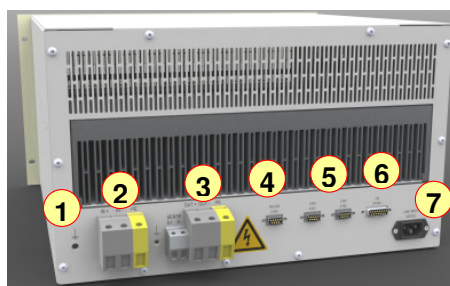

Fig. 5 Rear of device
Rear of device TC.LIN (cf. Fig. 5)
For the connection to the mains, an IEC C14 chassis plug is built into the housing (see Fig. 5, no. 7). The connection is made using a commercially available cable with IEC C13 plug to suit the country in which the device is used.
- See Fig. 5 (4)
- See Fig. 5 (5)
- See Fig. 5 (6)
The analogue and digital IO connection is a 15-pin D-SUB connector (female) on the rear of the device (see Fig. 5, p. 13).